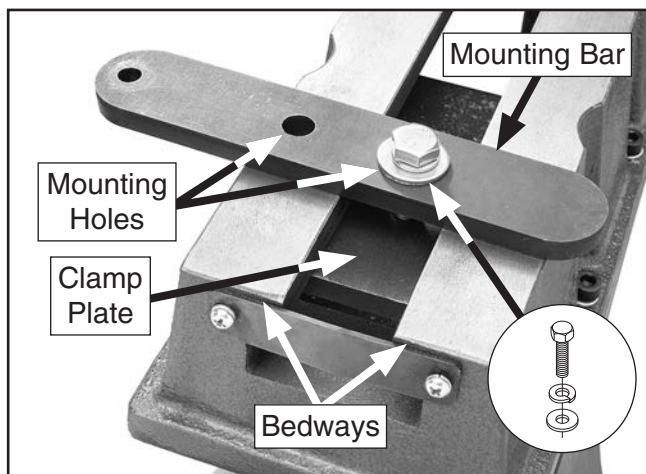

Figure 3. Mounting bar installed on bedways.
1. Position clamp plate under both bedways (see **Figure 3**).
2. Position mounting bar over top of bedways and attach to clamp plate with M10-1.5 x 40 hex bolt, 25mm fender washer, and 10mm lock washer (see **Figure 3**).